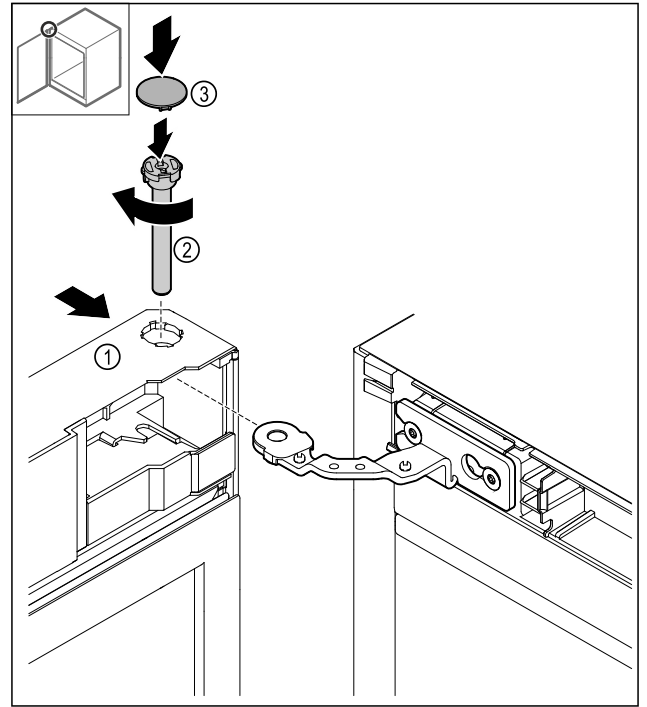

Fig. 39
- ▶ Slide the door Fig. 39 (1) onto the top hinge.
- ▶ Insert the bolt Fig. 39 (2) and turn it clockwise to tighten.
- ▶ Put on the cover Fig. 39 (4).